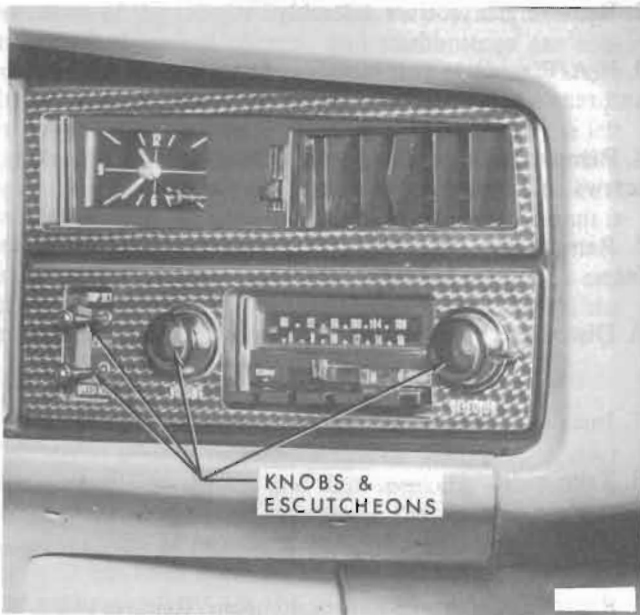

Figure 129-2
1. Remove knobs and escutcheons from radio control shafts. If car is equipped with trip set and/or speed alert, hold the shafts and unscrew the cone-shaped knobs to allow removal of the face plate. See Figure 129-2.